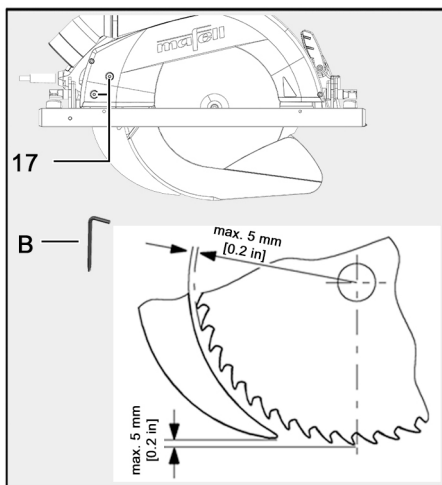

Fig. 9: Distance riving knife to saw blade
2. Using the Allen key (B) provided, turn the screw (17) **counterclockwise** to adjust it.
- Do not exceed the maximum distance to the saw blade (see Fig. 9: Distance riving knife to saw blade).
4. Using the Allen key (B), turn the screw (17) **clockwise** to tighten it.